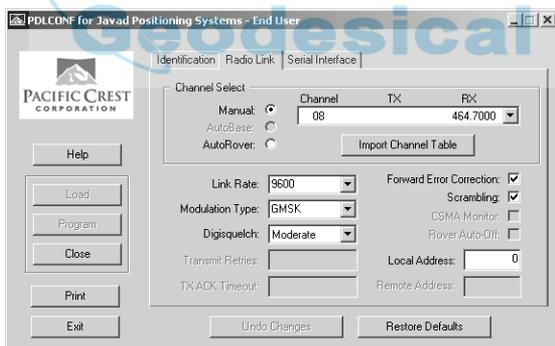

Figure 2-30. PDL Radio Link Tab
11. Click the Radio Link tab and set the following parameters (Figure 2-30):